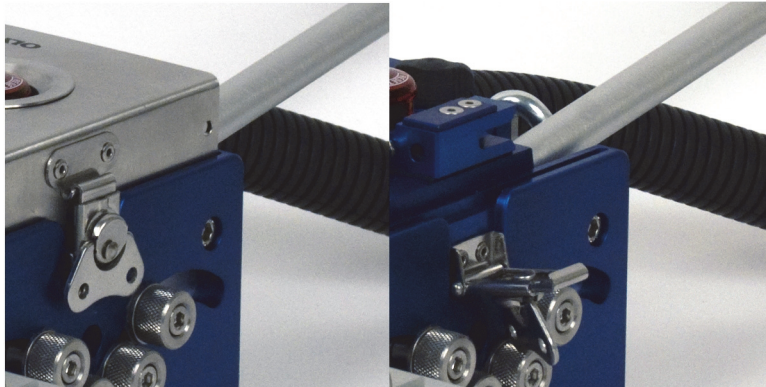

Figure 2-2 WeldROVER— butterfly latches
1. On each side of the scanner, lift the butterfly latch (Figure 2-2 on page 35).